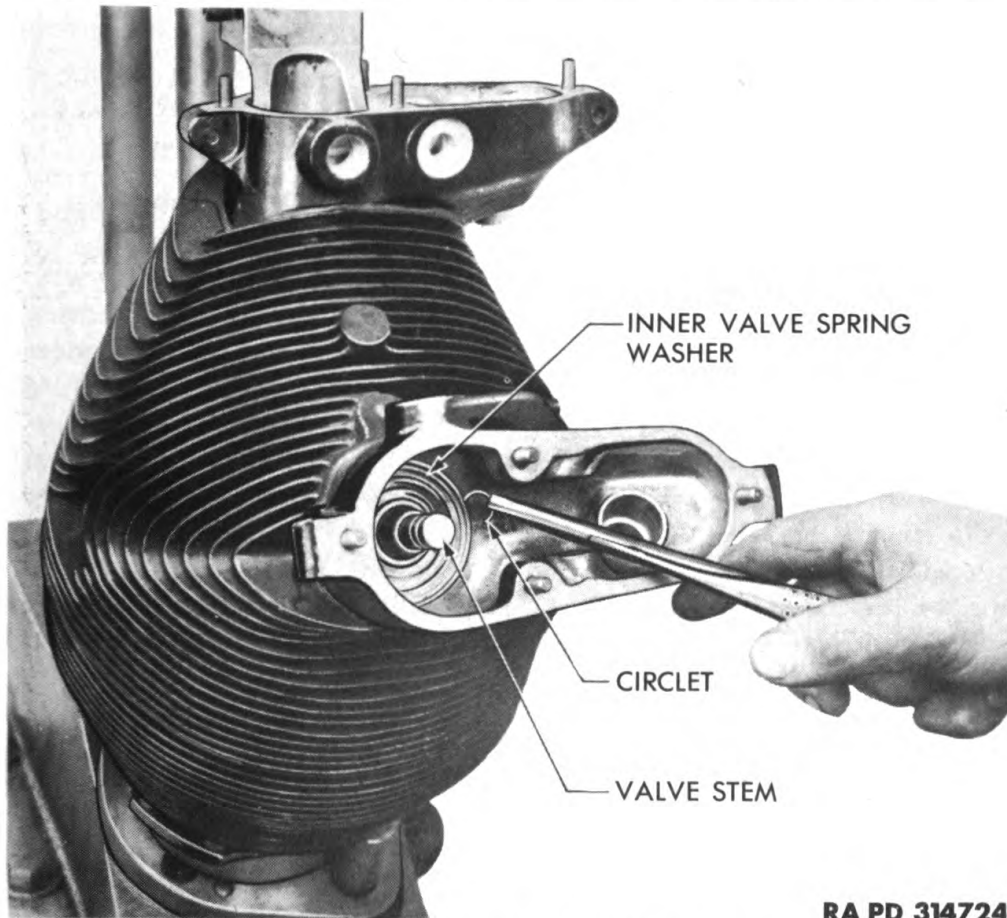

Figure 102 – Removing Ciriclet from Valve Stem
d. Remove Valves. Remove and discard circket from upper end of each valve stem (fig. 102). Hold both cylinder valves so they cannot slide out through valve guides, and lift cylinder from assembly block. Lay cylinder on its side. Before withdrawing valves from valve guides, inspect each valve stem to make certain it is free from